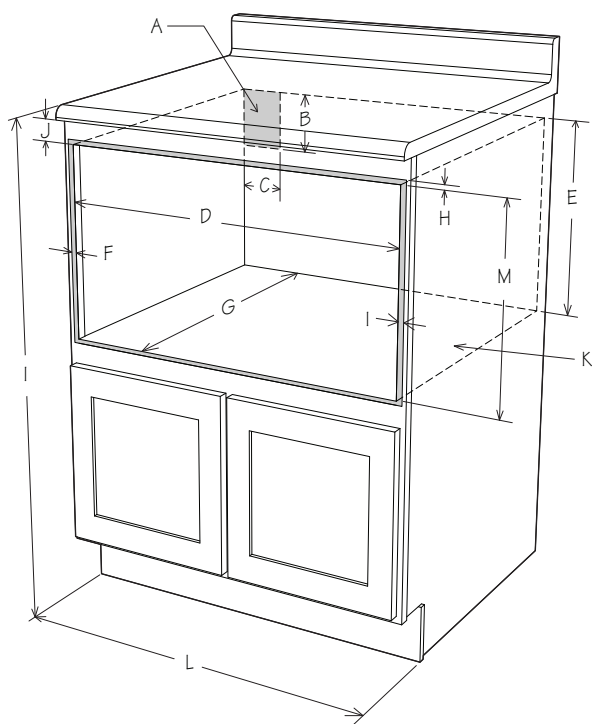
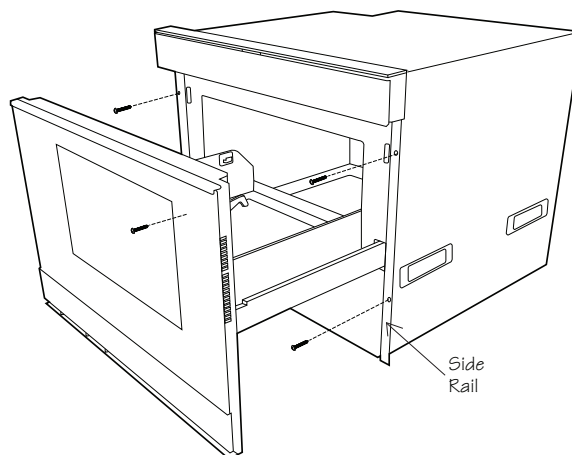

Figure 1
Figure 9
For SAFETY CONSIDERATIONS do not install drawer in any combustible cabinetry, which is not in accord with the stated clearances and dimensions on pages 2 - 4. See Figures 1 - 7.
- Dimensions that are shown in Figure 1 must be used. Given dimensions provide minimum clearance. Locate electrical outlet in the shaded area in the upper left-hand corner of the cutout. See Figure 9.
Figures 1 and 2 contain many Convection Microwave Drawer measurements for reference when planning the drawer's location.
3. Slide the Convection Microwave Drawer all the way until the mounting flange is flush with the face of the cabinet. See Figure 9.
4. Open the drawer. Using the 4 holes on the drawer as a template, pre-drill the cabinet using a 1/16" bit. See Figure 9.